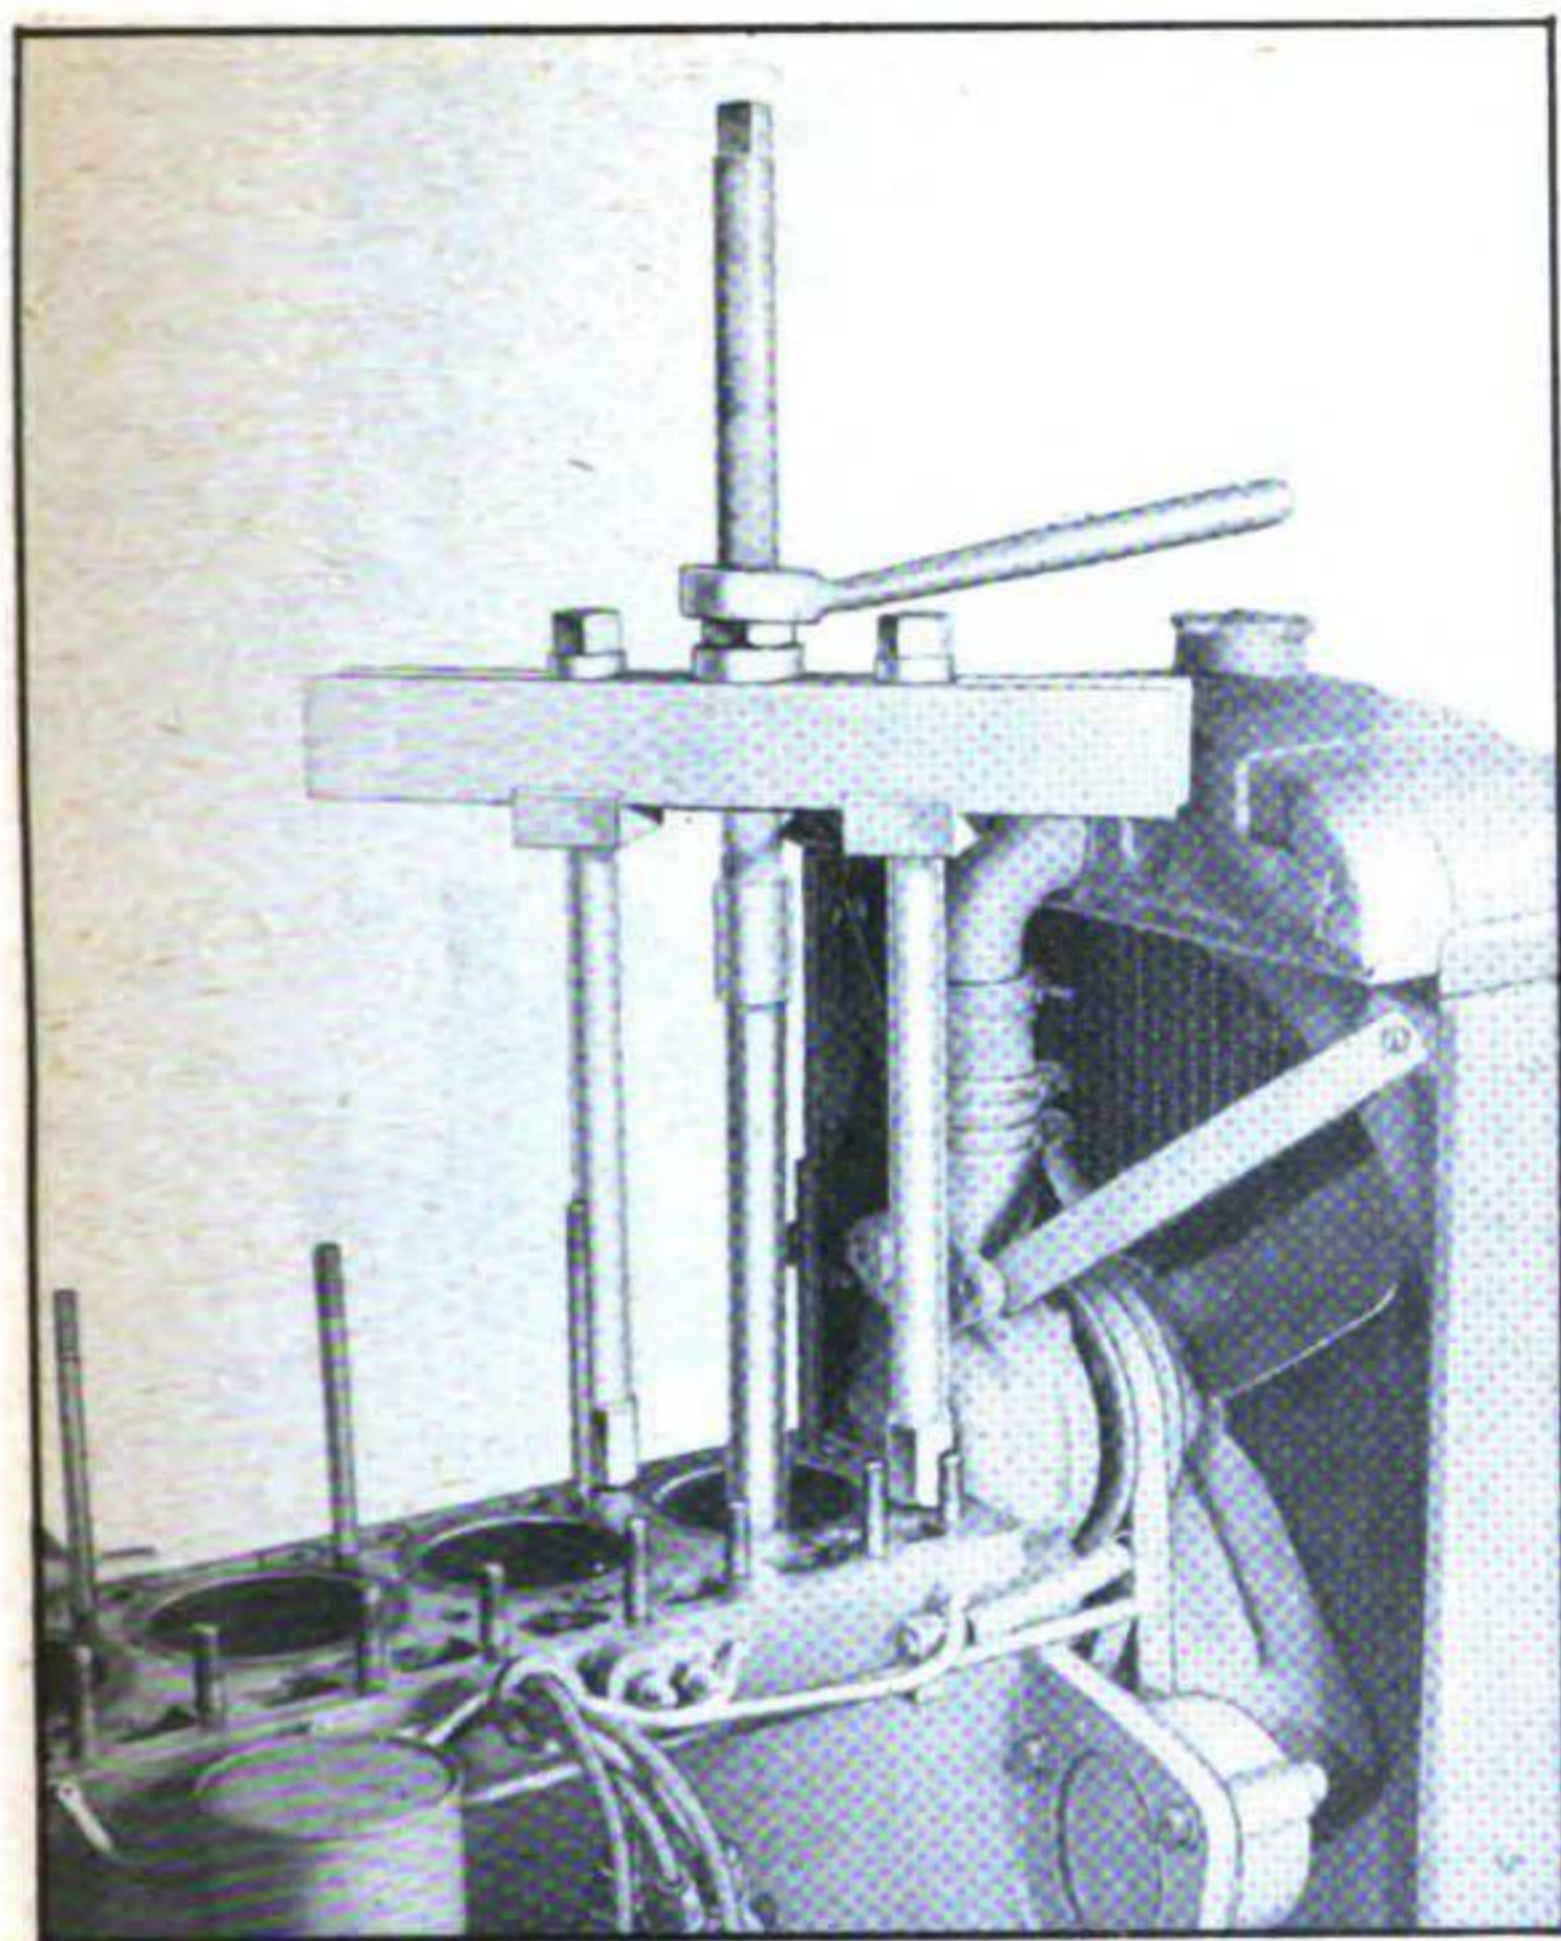

Figure 67 — Removing Sleeve from Engine
(4) Remove sleeves with the aid of a sleeve puller (Figure 67). Make certain sleeve puller adapter is of correct size to fit sleeves. Remove the two rubber rings from the lower bore of each cylinder.